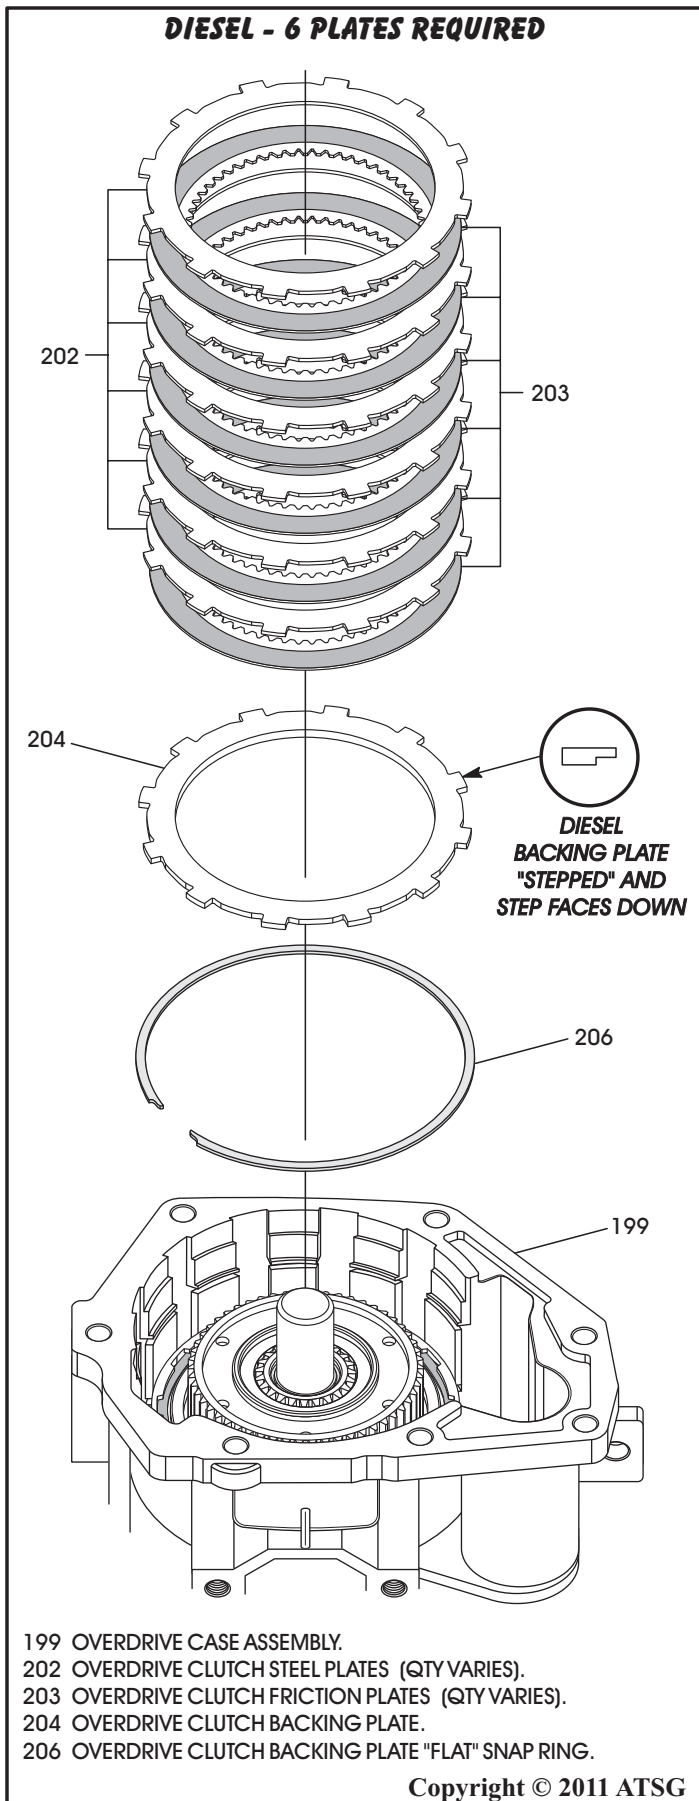

Figure 198
54. **Diesel Models:** Install the "flat" snap ring into the lower groove first, as shown in Figure 198.
55. Install the overdrive clutch backing plate on top of the flat snap ring, as shown in Figure 198, with the step facing down.
56. Install the overdrive clutch plates beginning with a friction plate and alternating with steel plates, as shown in Figure 198, until you have installed six of each.